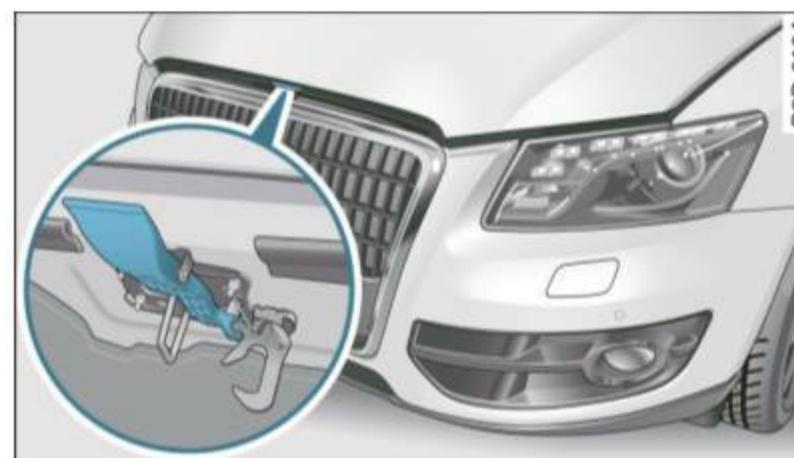

Fig. 199 Release lever under the engine hood
- Pull up on the release under the hood ⇒ fig. 199. This releases the catch.